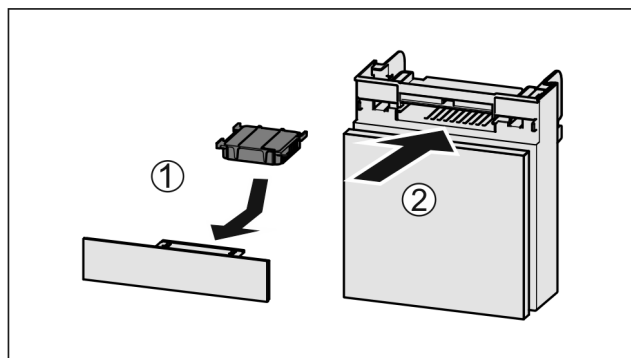

Fig. 176
- Insert the carbon filter as shown in the diagram Fig. 176 (1).
- Push the compartment in Fig. 176 (2).